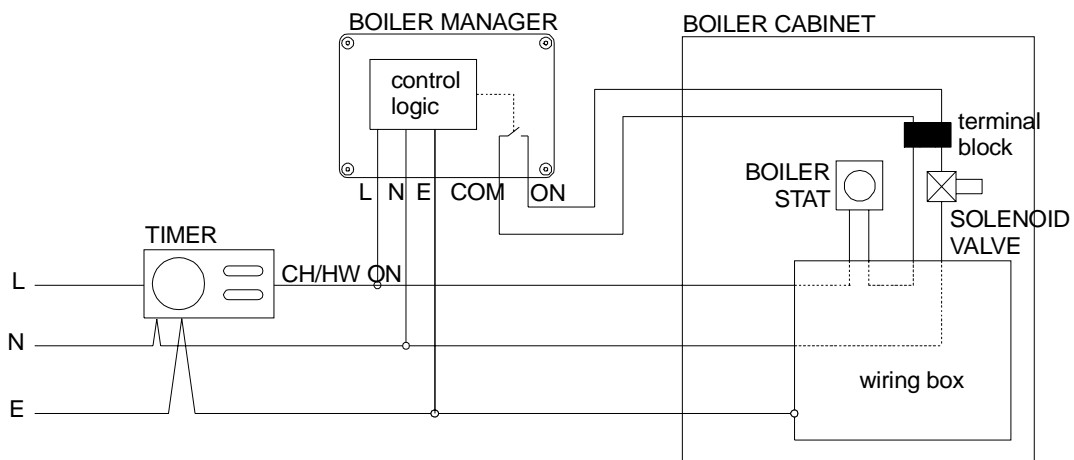

FIGURE 4: WIRING DIAGRAM ('SWITCHED LIVE TO VALVE' CONFIGURATION)
- If the boiler is not powered directly from the timer or has additional equipment inside the cabinet, the Boiler Manager output contacts must be connected to the solenoid valve feed, on the "switched Live" side. See the wiring diagram in Figure 4. This will in the majority of cases mean the modification of the internal boiler wiring.